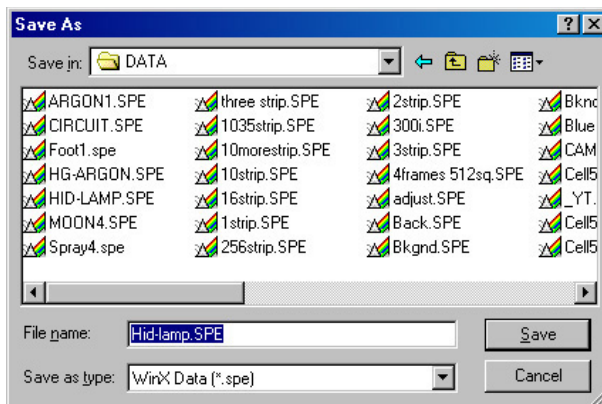

Figure 54. Data File Save As dialog
1. Select **Save As** from the File menu. The Data File Save As dialog (Figure 54) appears.